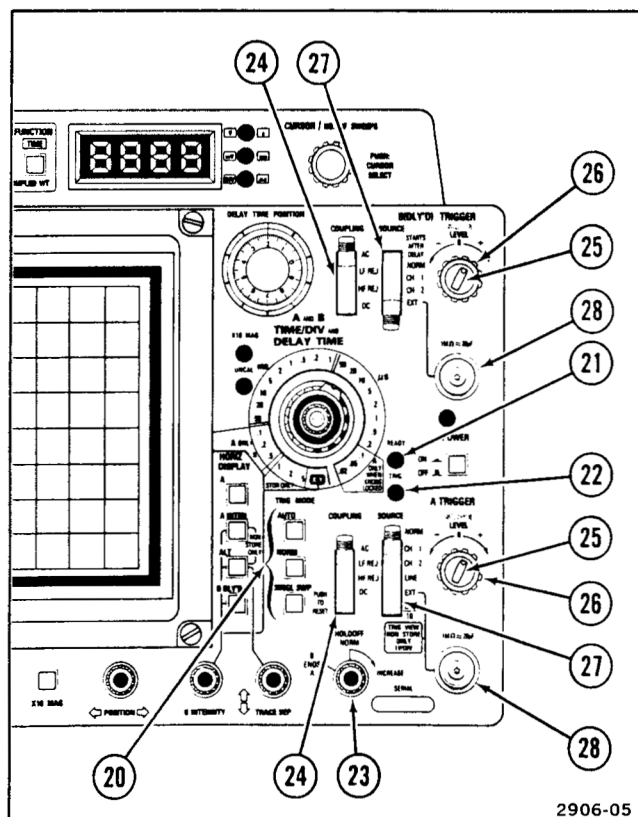

Figure 2-5. Trigger controls, connectors, and indicators.
Refer to Figure 2-5 for location of items 20 through 28.
- ②0 **TRIG MODE Switches**—Three push-button switches that determine the mode of trigger operation for the instrument.